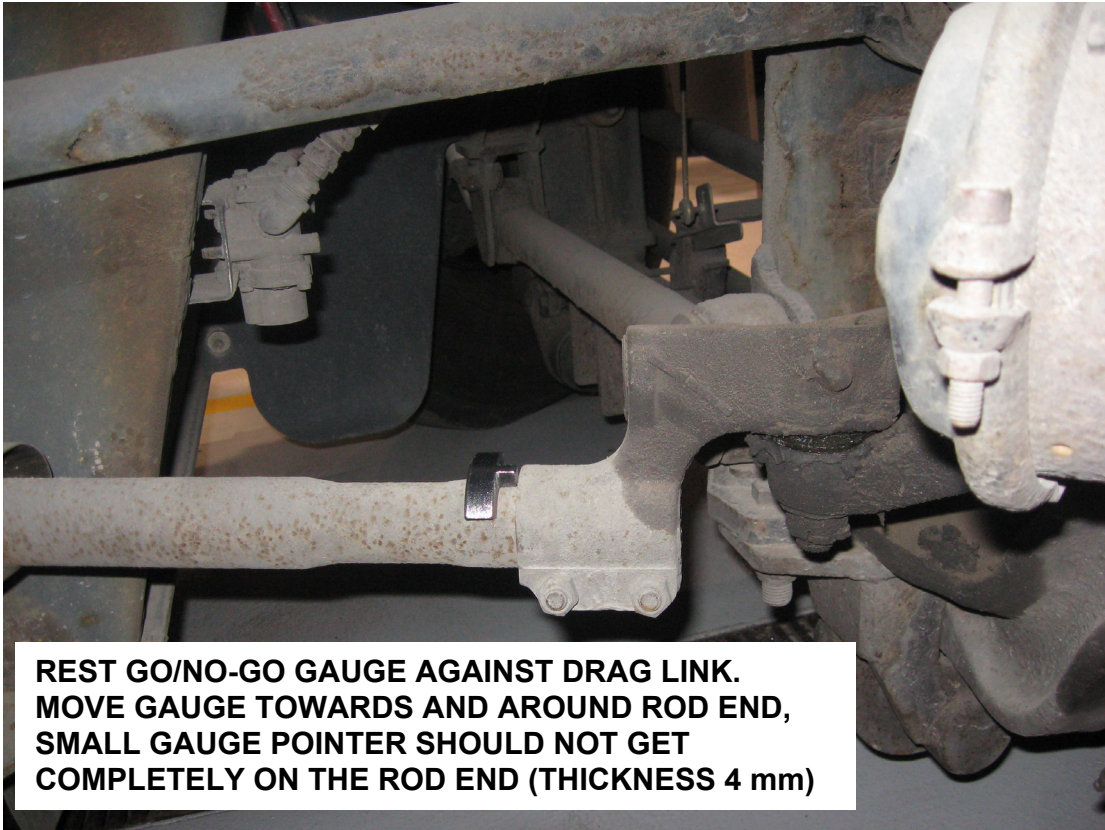

FIGURE 2
2. Clean drag link surface near the rod end and also spherical plain bearing rod end to ensure proper measurements (Refer to figure 2)
- Use supplied go/no-go gauge (169159) to check wall thickness of the drag link spherical plain bearing rod end located near front L.H. side wheel without having to remove drag link. **Minimum wall thickness is 4 mm (0.158 inch or 5/32")**. While resting go/no-go gauge against drag link, if you can get the gauge completely on the rod end up to 10 mm (3/8") from the rod end extremity, rod end must be replaced (Refer to figures 2, 3 and 4).